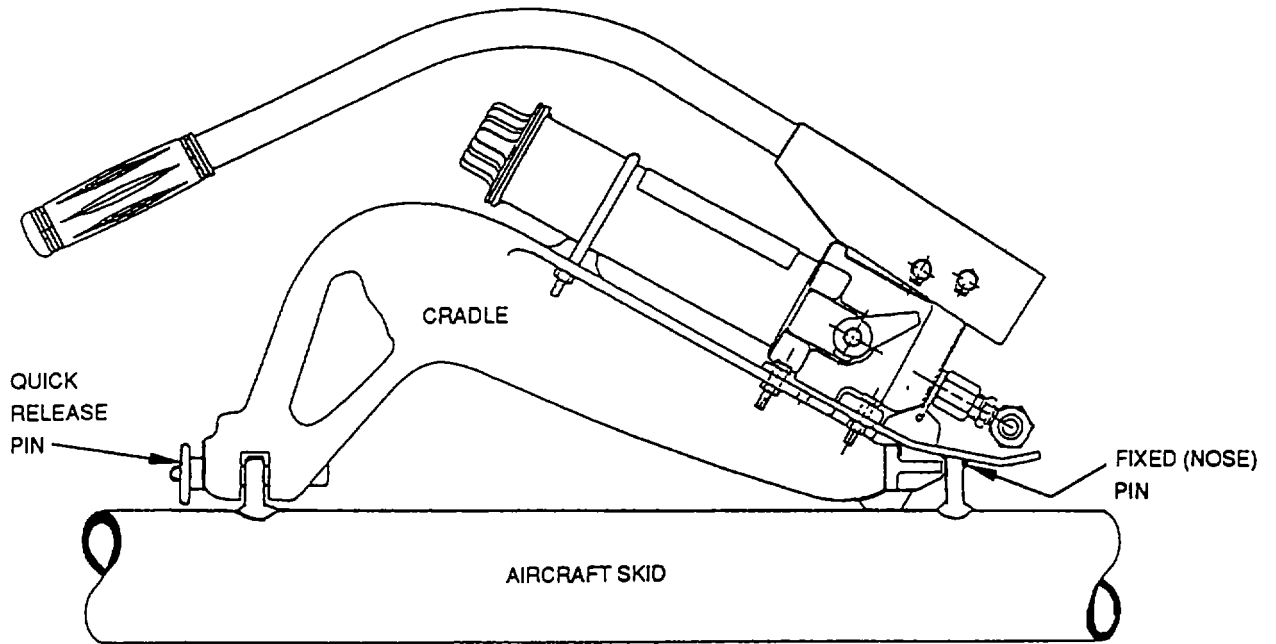

Figure 2-4. Mechanical Connection Components, Model 214-706-104-101
**2-3.5. Quick Release Pin Use, Model 214-706104-101 & 1730-EG-100.** Procedures for engaging and disengaging the quick release pin are presented Refer to figure 2-4 and 2-5